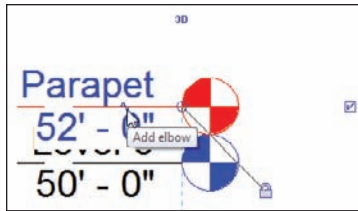

FIGURE 3.13 You can add an elbow to the elevation marker.
2. The blue items will “light up.” One of them is the choice to add an elbow, as shown in Figure 3.13. Click it, and Revit will bend the level.